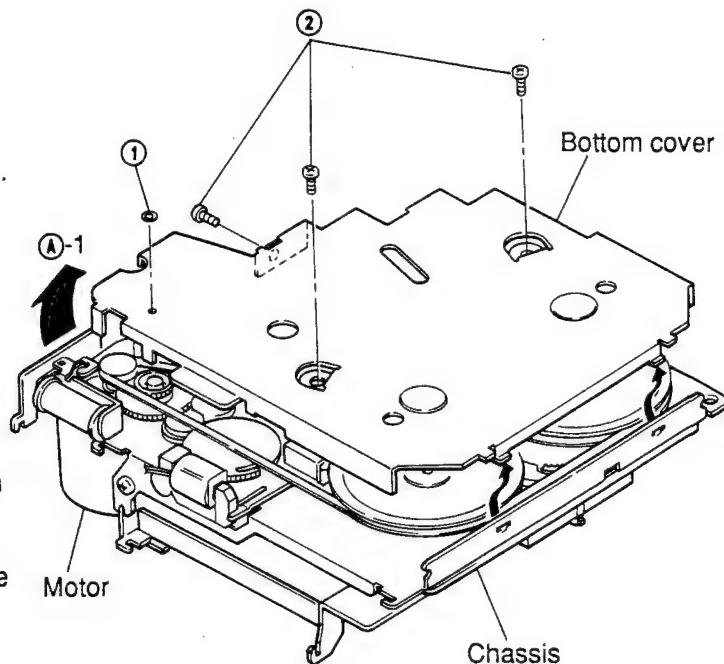

Figure 1
- (1) Turn the mechanism around as shown in Figure 1.
- (2) Remove M1 lock washer ① as shown in Figure 1.
- (3) Remove three screws ② as shown in Figure 1.
- (4) Lift the bottom cover slowly from the position ④-1, pull the hooks out of the holes in the chassis, and remove the bottom cover as shown in Figure 1.